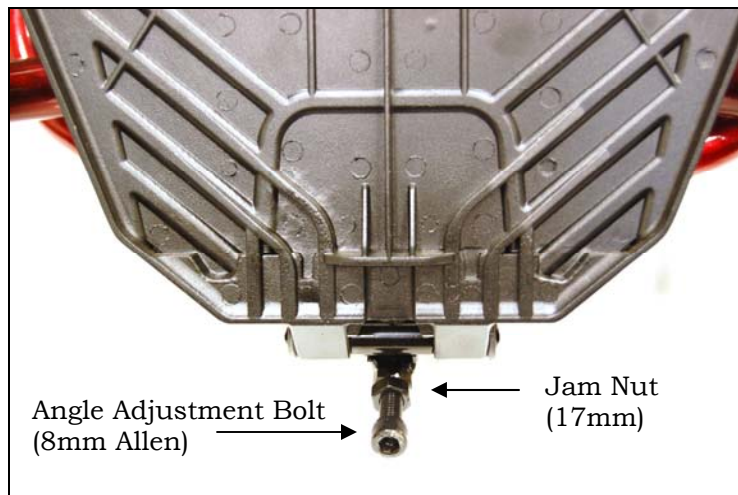

Figure 11
1. Fold the footrest upward for easy access to the angle adjustment bolt. See figure 11.